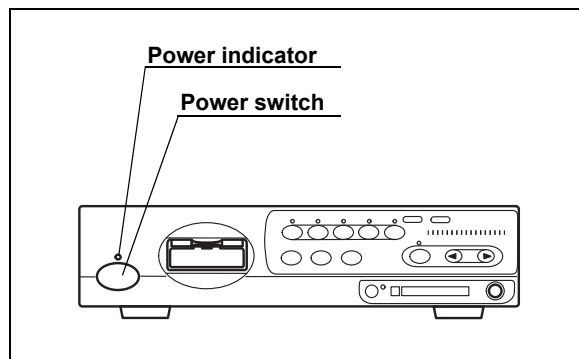

Figure 4.5
2. Turn the instrument ON by pressing the power switch (see Figure 4.5). The indicator above the power switch lights up.